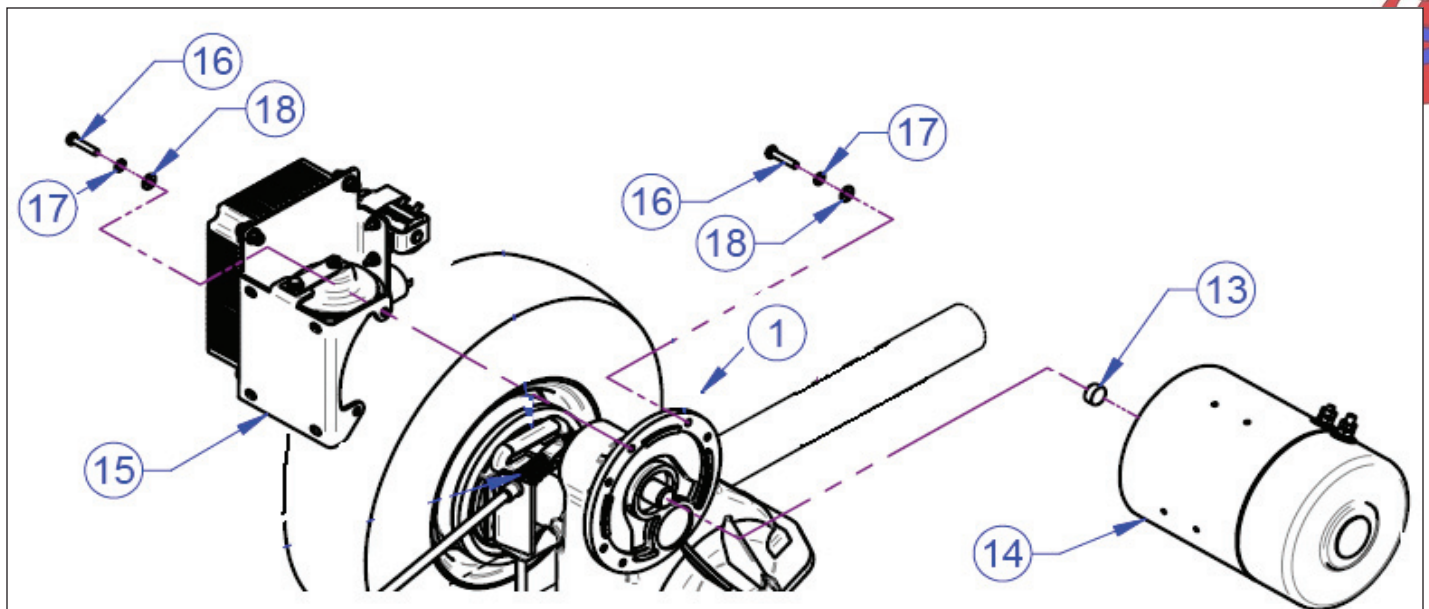

Figure 7-4. Motor Mounting Hardware
4. See Figure 7-4. Carefully support motor to prevent it from falling, and loosen and remove three bolts (16), lock washers (17) and flat washers (18) securing motor (14) to rear axle/differential housing (1). Pull motor away from rear axle housing and lift it clear of the vehicle.